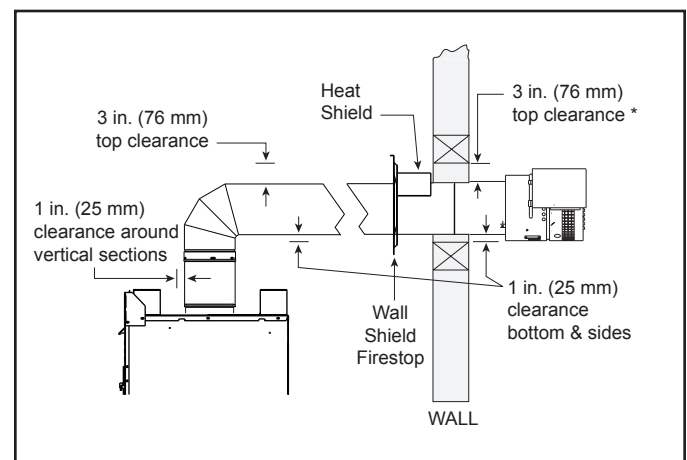

Figure 7.31
**NOTE:** The PVK-80 Power Vent must terminate in a **HORIZONTAL** position. See Figure 7.31.